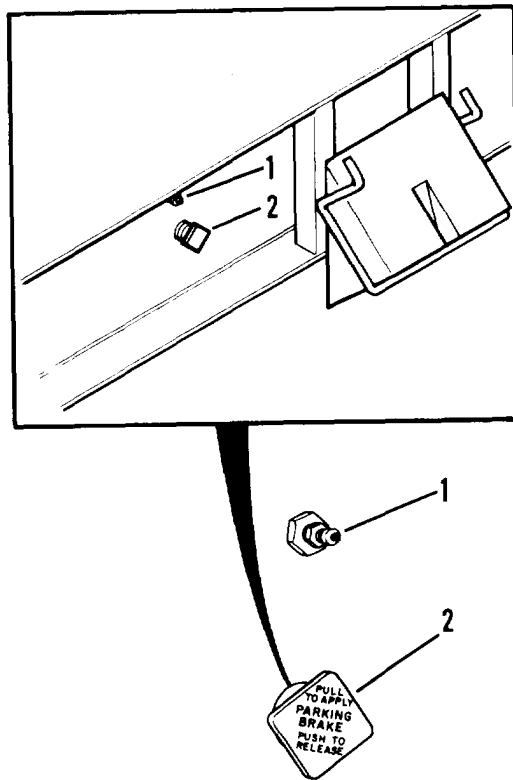

Figure 2-33. Parking brake
- a. Pull parking brake handle (2, figure 2-33), located on left side of semitrailer under the air charging valve (1), to apply brake system.
- b. To release parking brake, push handle (2) in.